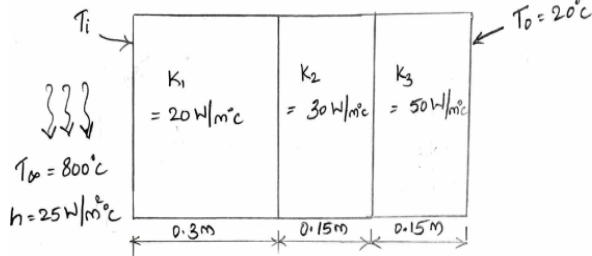

Figure 1
- 2 A composite wall is as shown in figure 1 consists of three materials. The outer temperature T_o is 20°C . Convective heat transfer takes place on the inner surface of the wall with $T_\infty = 800^\circ\text{C}$. The convective heat transfer coefficient is $25 \text{ W/m}^2 \text{ }^\circ\text{C}$. Determine the temperature distribution in the wall.